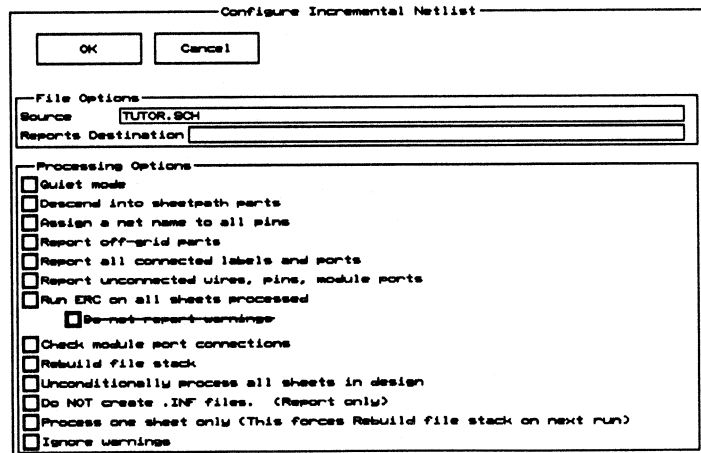

Figure 7-11. The Configure Incremental Netlist screen.
2. Select Configure INET. The Configure Incremental Netlist screen displays (figure 7-11).